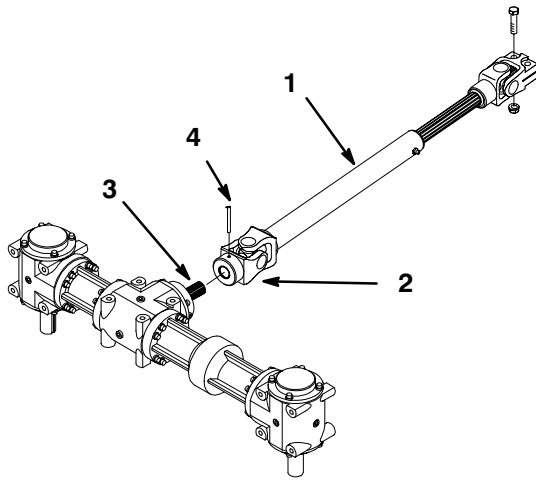

Figure 29
13. Drive roll pin through hole in PTO drive shaft to separate from gearbox shaft (Fig. 29).